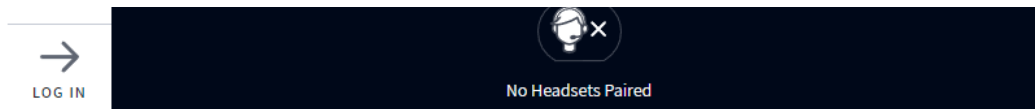
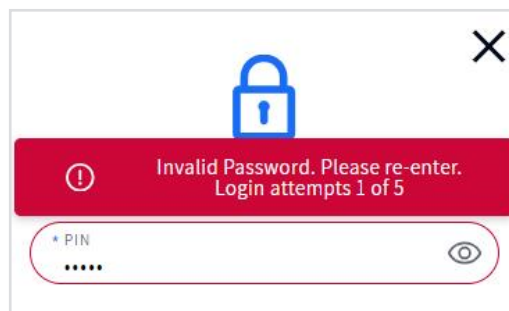

Fig. 1.25
Fig. 1.26
1. Tap LOG IN on the sidebar menu (Fig. 1.25). This opens a dialog box and prompts you for a PIN (Fig. 1.26). You are allowed five password attempts before being locked out for five minutes. The red prompt above the PIN field indicates an invalid password and number of attempts.